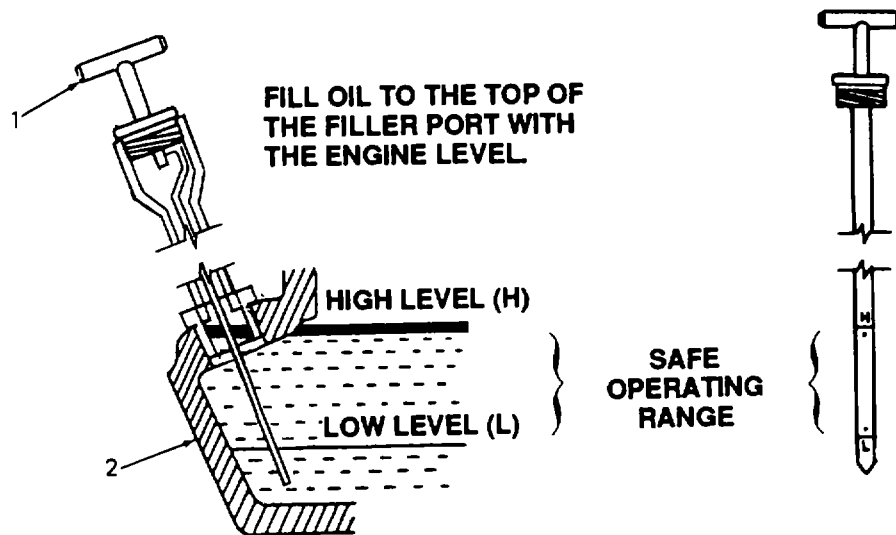

Figure 4-1. Oil Dipstick
- c. Check the oil level by inserting the dipstick all the way into the engine. Withdraw the dipstick. Engine oil should coat the dipstick within the operating range. (Refer to Figure 4-1.)
- h. Withdraw oil dipstick and wipe with a lint-free cloth (Appendix E, Section II, item 6). Check oil level to be sure oil coats dipstick within the operating range.